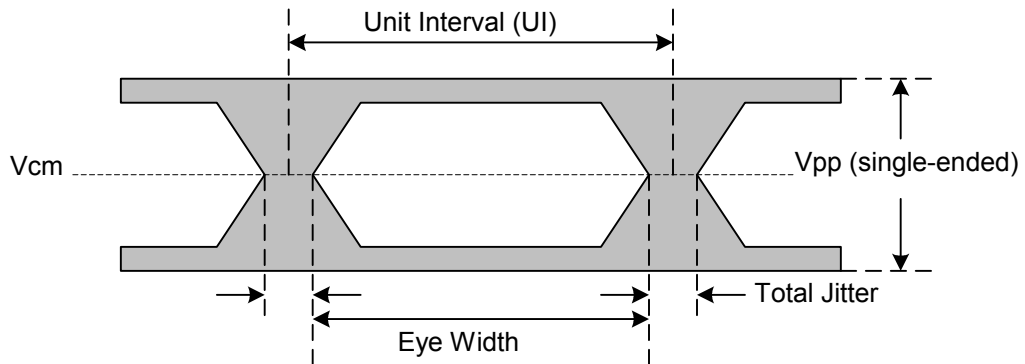

FIGURE 6-12. EYE DIAGRAM DEFINITION AND TIMING
**TABLE 6-11. TRANSMIT SERIAL DIFFERENTIAL OUTPUT TIMING** (see Figure 6-12)
**TABLE 6-12. SERIAL DIFFERENTIAL INPUT TIMING REQUIREMENTS** (see Figure 6-12)